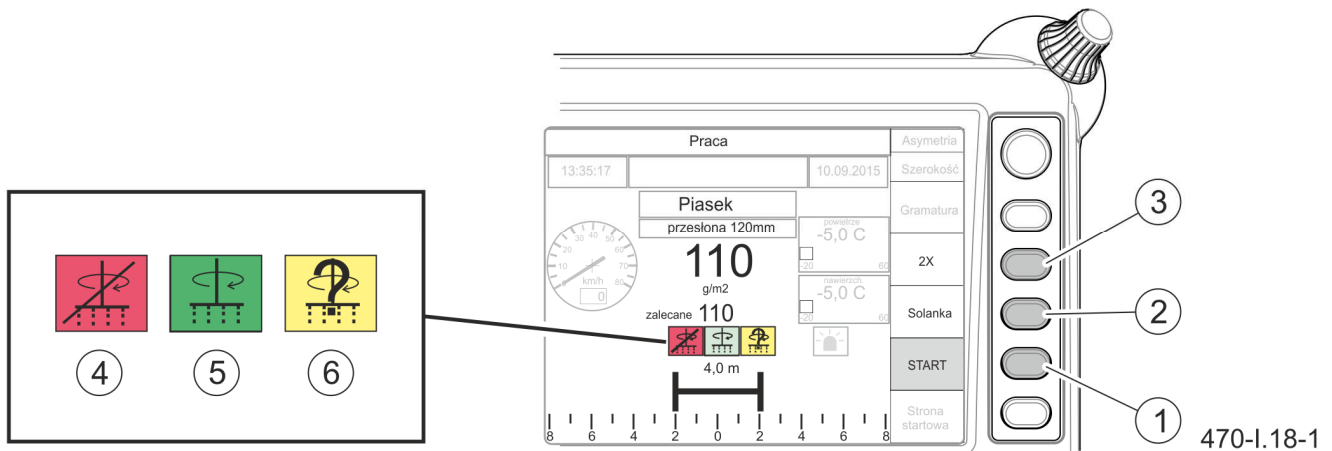

FIGURE 4.18 Start of spreading
On control panel working page "Operation" (FIGURE 4.18), activate spreading by means of push-button (1); "Start" function will be highlighted. Activation of spreading disc drive and belt conveyor is signalled by indicator light (4), (5), or (6). Brine spraying is switched on and off by